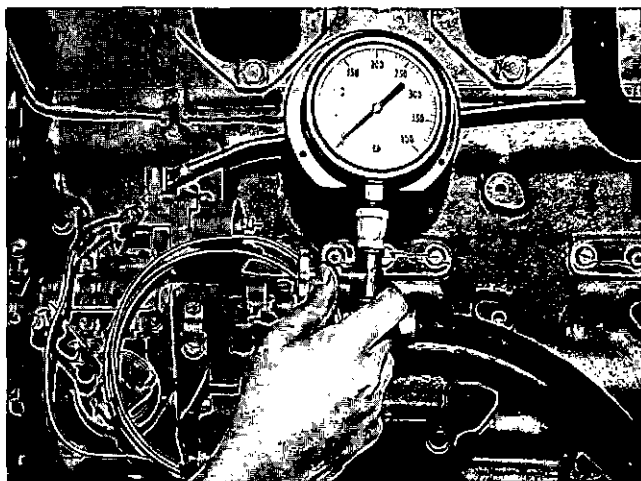

Fig. 5-38, V41021. Checking fuel manifold pressure
1. Check maximum fuel manifold pressure with ST-435. Remove plug from shut-down valve and connect gauge line. Run engine up until governor "cuts in" and check maximum pressure reached. Compare with previous readings to determine if fuel pressure output is satisfactory. Normally this check is required only if loss of power is suspected. Fig. 5-38.